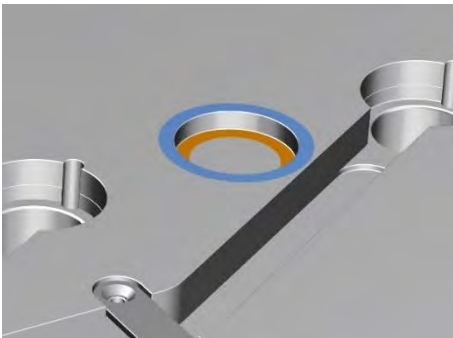

Figure 38: Centring with a locating ring
- 9) As an alternative to centring with a dowel pin, a locating ring may be provided. Here again, you should check the installation depth (distance between the blue and the orange surfaces in Figure 38) and compare this with the design drawing for your hot runner. If the value is within the specified tolerance, put the ring in position. No spacer disc is required in this case.